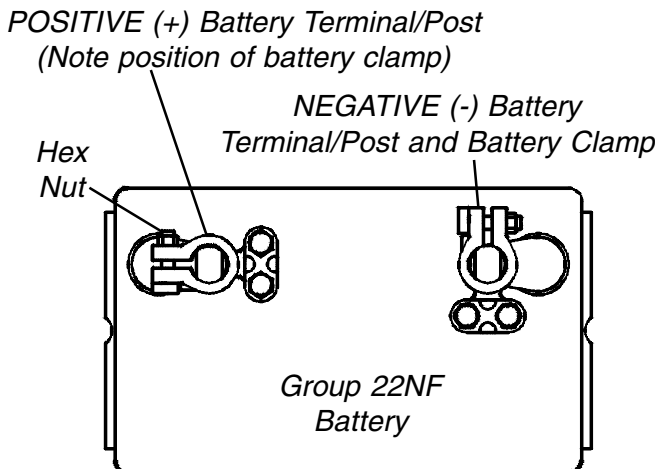

FIGURE 4 - CONNECTING BATTERY CABLES - BATTERY CLAMP METHOD
BATTERY CLAMP METHOD (FIGURES 4, 5 AND 6).
- B. If the battery clamp on the POSITIVE (+) battery terminal/post is positioned as shown in FIGURE 4, proceed to STEP 2.